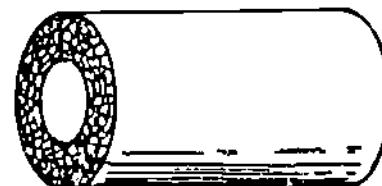

Figure 36-3. Moulded-Cork Pipe Covering
4. Moulded-cork pipe covering is a grainy material made by grinding the bark of cork trees. Its construction gives it many advantages and varied uses. The pure, clean cork is pressed and moulded to exact size and shape and finished with a coating of plastic asphalt. It is ideal for covering brine, ammonia, ice water, and all types of cold water lines. It has excellent insulating qualities over a wide low-temperature range; will not rot or burn; and is clean, sanitary, and odor-free. It comes in varied sizes and shapes for different sizes of pipes and fittings. It should be coated with a waterproof material to keep moisture out of the insulation. (Figure 36-3.)